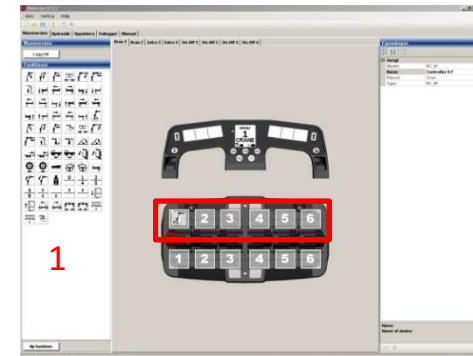

Figure 48. Placing of a function.
1. Place the cursor on the symbol of the function in the area *Functions* (1) to the left of *working area*.
3. Move the cursor, without releasing the left mouse button, to the position on the front row of numbered functions on the controller where the selected function should be activated, see red box, Figure 48. A symbol showing the selected function is moving along with the cursor.